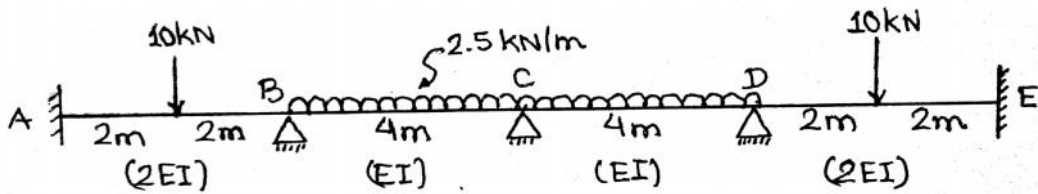
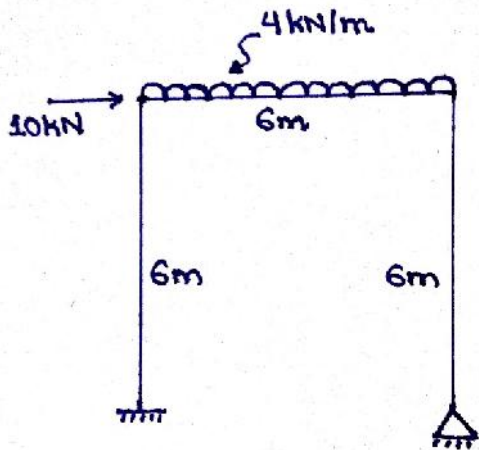

Figure 4
Figure 5
**Q.3** A) Using the concept of symmetry, determine the deformations produced in the beam as shown in the **Figure 4** below using stiffness member approach. (07)
B) Derive the relation  $S_{MS} = R_T^T S_M R_T$  with usual notations. (08)
B) Determine the member end actions for a plane frame as shown in the **Figure 5** using flexibility member approach. (08)